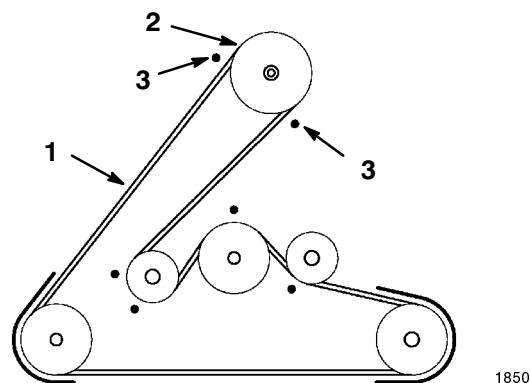

Figure 43
15. Remove the mower belt from the engine pulley (Fig. 43). If you are careful, you can flex the belt guide(s) just far enough away from the pulley to remove the belt. If it is too difficult to remove the belt, loosen the bolts and nuts securing the belt guides. Tighten bolts.